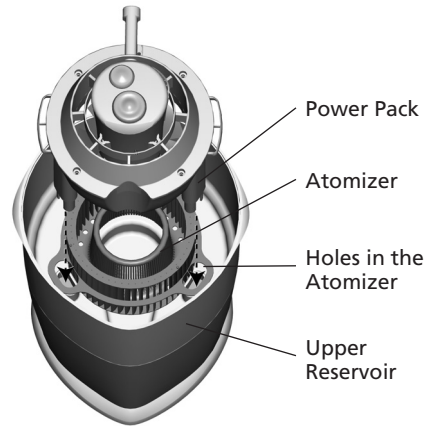

Figure 18
6. Place the Power Pack into the Upper Reservoir so that the three prongs in the Power Pack go through all three holes in the Atomizer and into the three prongs in the base of the Upper Reservoir. Make sure the Power Pack is securely seated and all three prongs are in the proper position. See Figure 18.